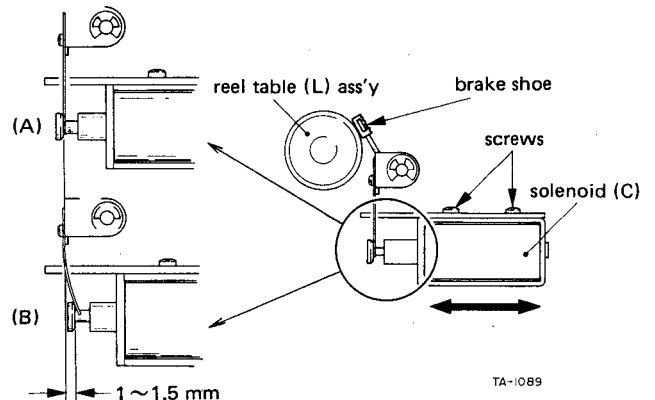

Fig. 4-6
1. Manually push the brake shoe to make contact with the left reel table assembly. This partly depresses the plunger into the solenoid housing. In this condition, check that the plunger can be manually pushed in an additional 1 to 1.5 mm. If not, adjust the solenoid position accordingly. Refer to Fig. 4-6 (A) and (B).